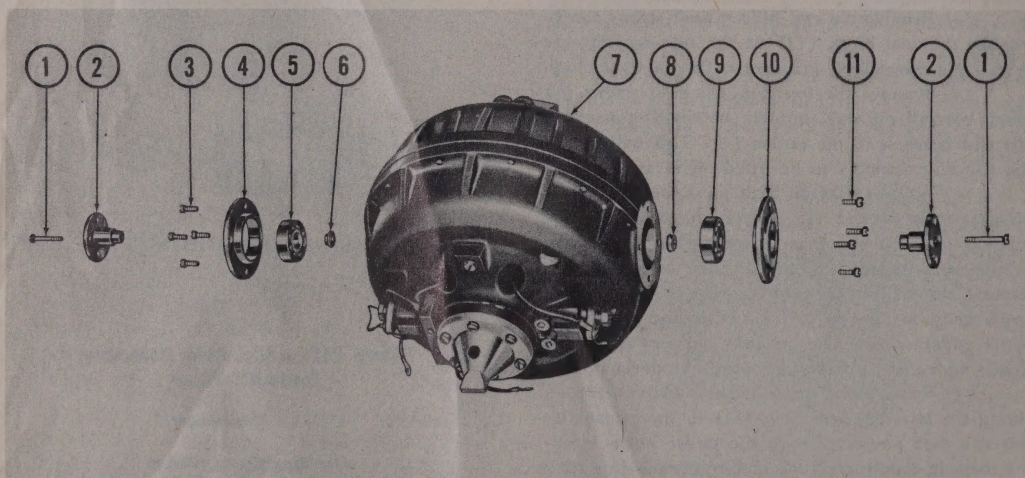

Figure 253—Rotor Case Bearings, Exploded View
(11) DISASSEMBLE THE ROTOR AND CASE ASSEMBLY.
(a) (See figure 253.) The locking screws (1) and gudgeon pins (2) have already been removed. Scribe a mark on the bearing sockets (4 and 10) and also on the case (7) so that the bearing sockets may be replaced in exactly the same position.
(See figure 253.)